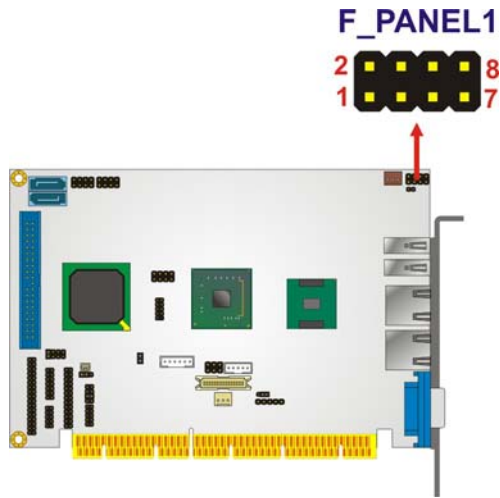

Figure 4-12: Front Panel Connector Pinout Locations
- CN Location:** See **Figure 4-12**